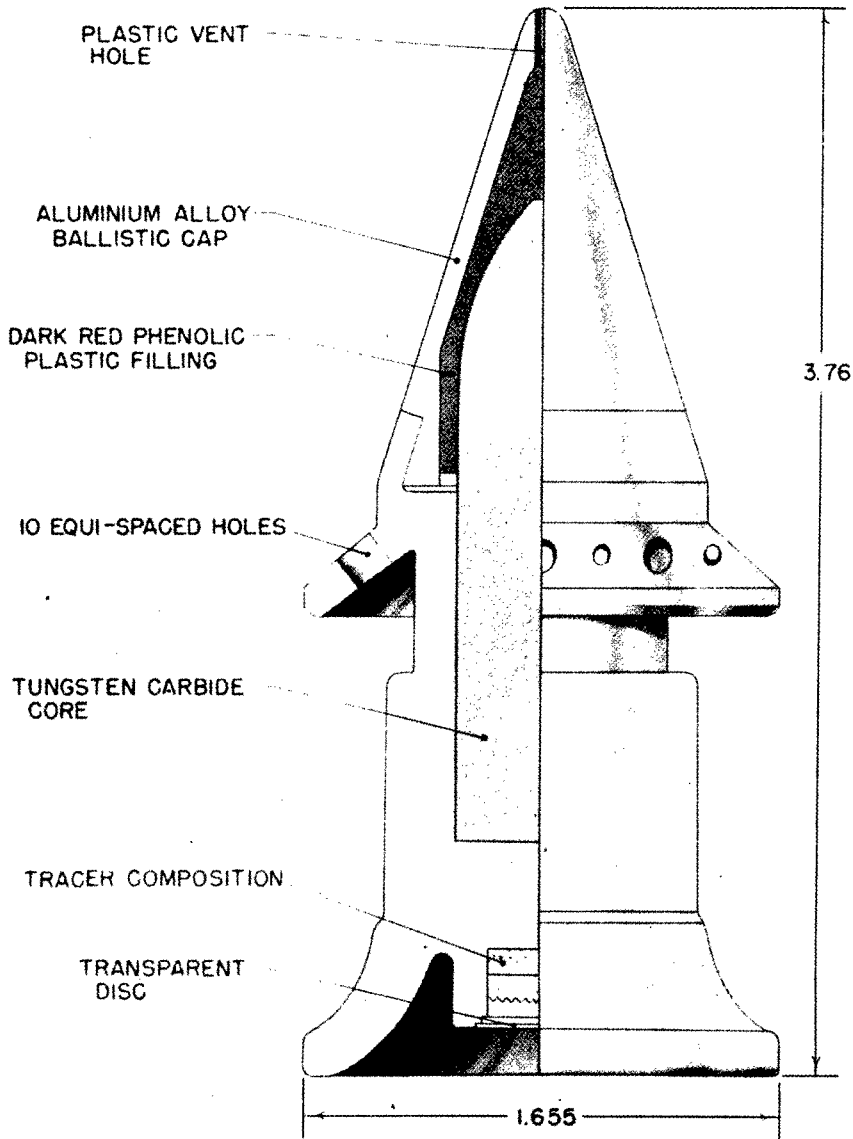

Figure 342—A. P. Projectile with Core for Tapered Bore Gun, 42-28-mm, 4.2-2.8-cm Pzgr. Patr. L. Pak. 41
**GERMAN NOMENCLATURE:** 4.2-cm—2.8-cm Pzgr. Patr. L. Pak. 41 (Panzergranate Patronen L. Panzerabwehrkanone 41). (See fig. 342.)